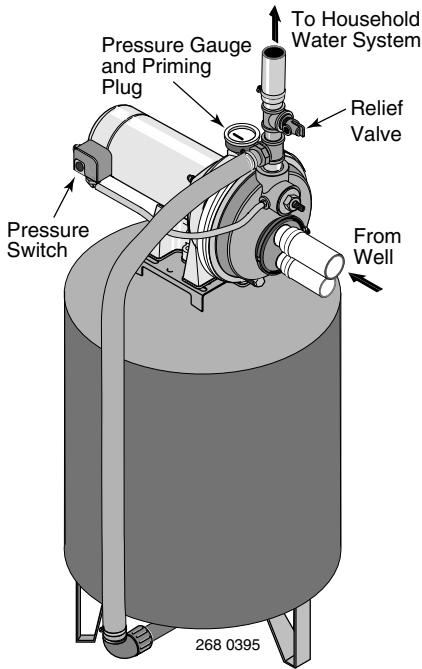

Figure 12: Pre-charged Tank Connections
PRE-CHARGE TANK CONNECTION (Figure 12)
- Step 1. Install a close nipple and a tee in the pump discharge port (see Figure 12). The pipe size must be at least as large as the discharge port. Run a pipe or reinforced hose from one arm of the tee to the port on the pre-charged tank.